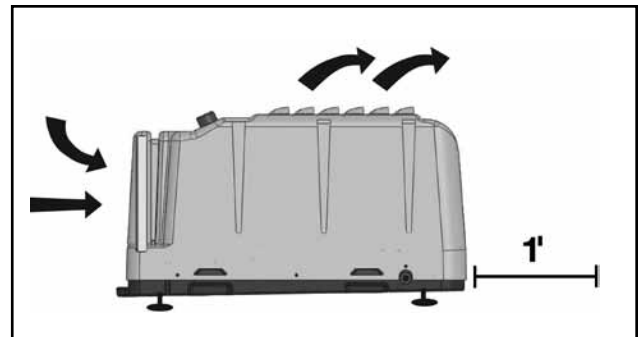

Figure 5: Installing Santa Fe Advance in area with proper clearance.
3. Do not install the Santa Fe Advance with the intake or exhaust of the unit within 1' of a wall or other obstruction. Do not place the unit where curtains or debris can be drawn onto the intake and restrict airflow. Do not operate in standing water or place the unit near open water. Refer to Figure 5.